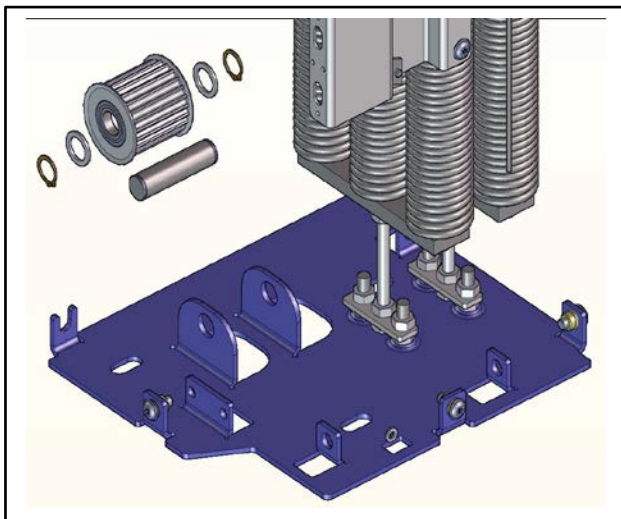

Figure 63
5. Push the shaft through the center of the pulley and remove the pulley. (See Figure 63.)